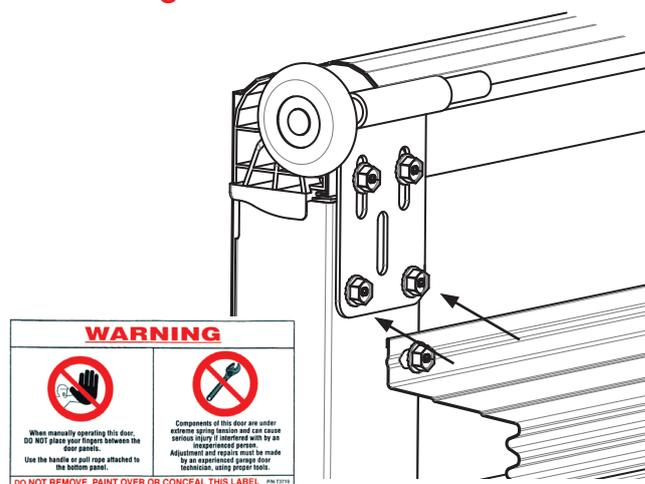

Fig: 3.2.4
- When finally adjusted the additional fixings must be added. Fig 3.2.4.